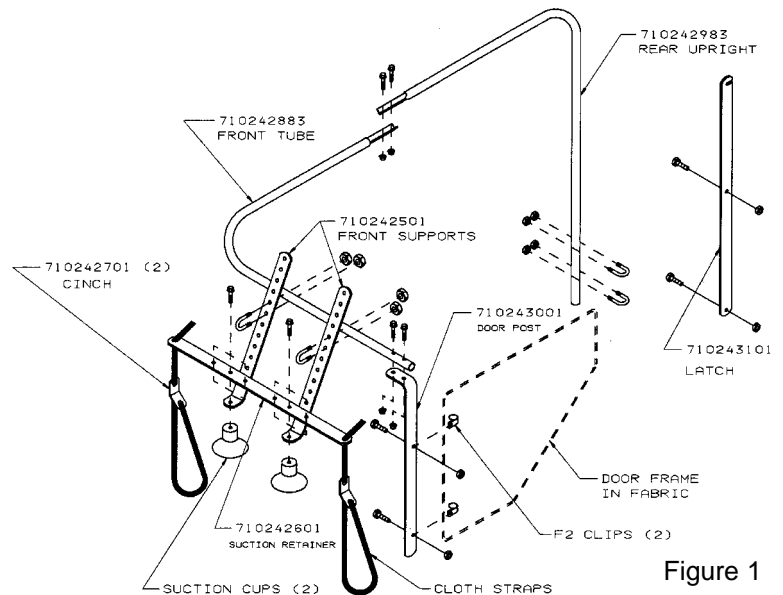

Figure 1
7. Thread a piece of cloth strap through the end of #710242601 retainer (Figure 1) Tie a knot in the strap so it will not pull back through the hole. Thread the other end through a #710242701 cinch, down around a handle, frame or object on tractor and tie to other hole in the cinch. Repeat for other side. Adjust both cinches to hold suction cups tightly on the tractor.